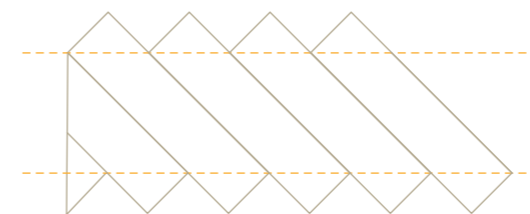

Figure 13: Initial row with reference lines and fitted pieces.
2. Glue down the initiating row using Dinesen's recommended glue system at a 45° angle to the centre line. Always push the planks closely together, unless the planks are installed with a fixed 2 mm gap. In the latter case, use temporary spacing blocks. Glue down the fitted pieces against the wall as you finish each row. See figure 13.